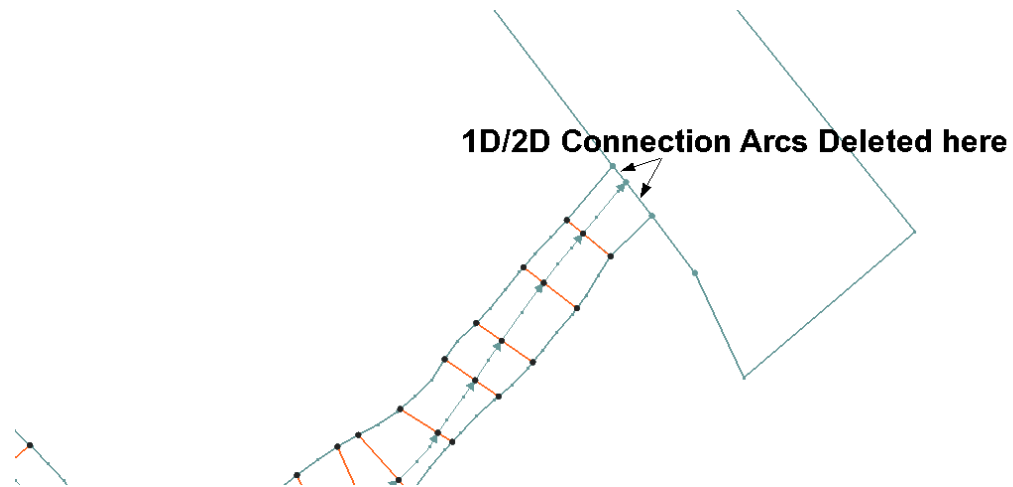

Figure 18 Location of deleted 1D/2D connection arcs on downstream end.
1. There can not be any 1D/2D connection at the location of the boundary condition. For this reason, you should click on the *Select Feature Arc*  tool to select and delete the two most downstream 1D/2D connection arcs (indicated in the Figure 18).